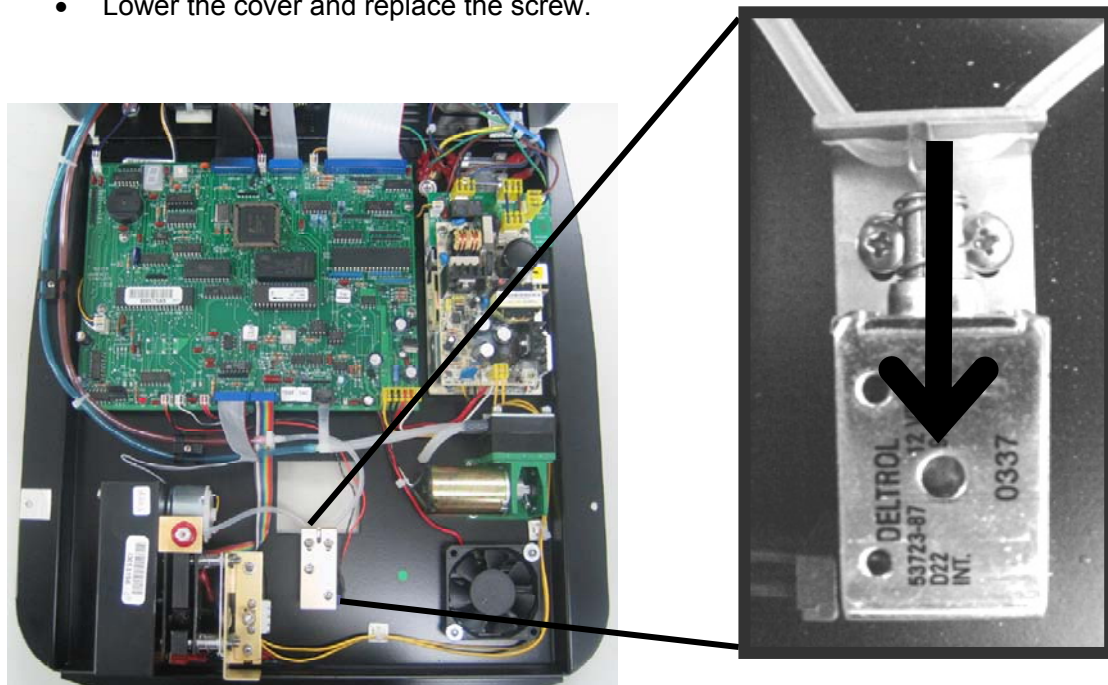

Figure 5 – Valve Tubing Replacement
- Set the power switch to OFF (O).
- Refer to Figure 5. Locate the valve beside the photometer. Note: The valve is shown inverted in the callout view in Figure 5.